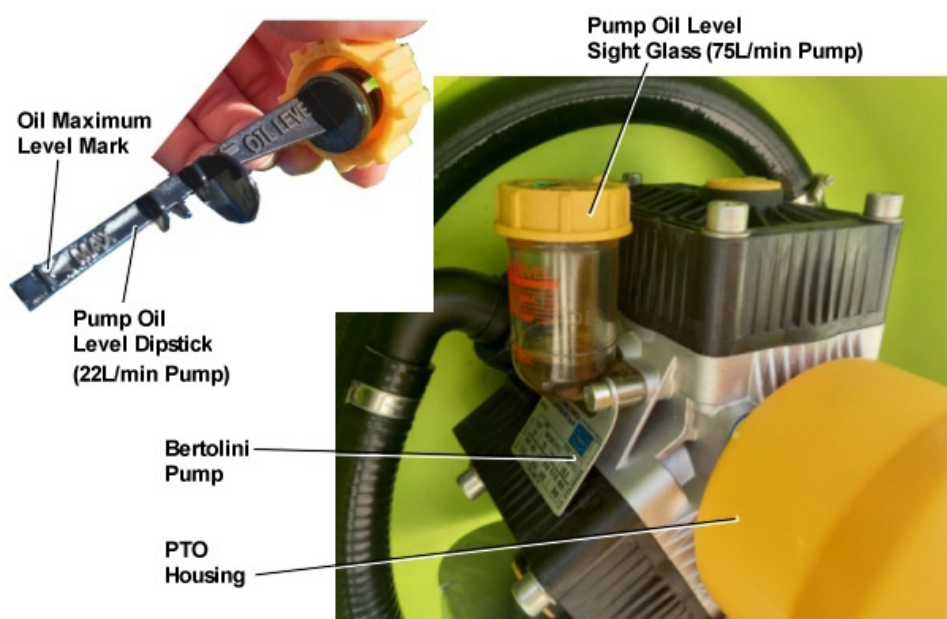

Figure 6 – 30m Manual Hose Reel Operation
- With the hose pressure released, the hose is ready to stow back onto the TopCrop's hose reel. If fitted with the standard 30m hose reel, proceed as follows, refer to Figure 6: